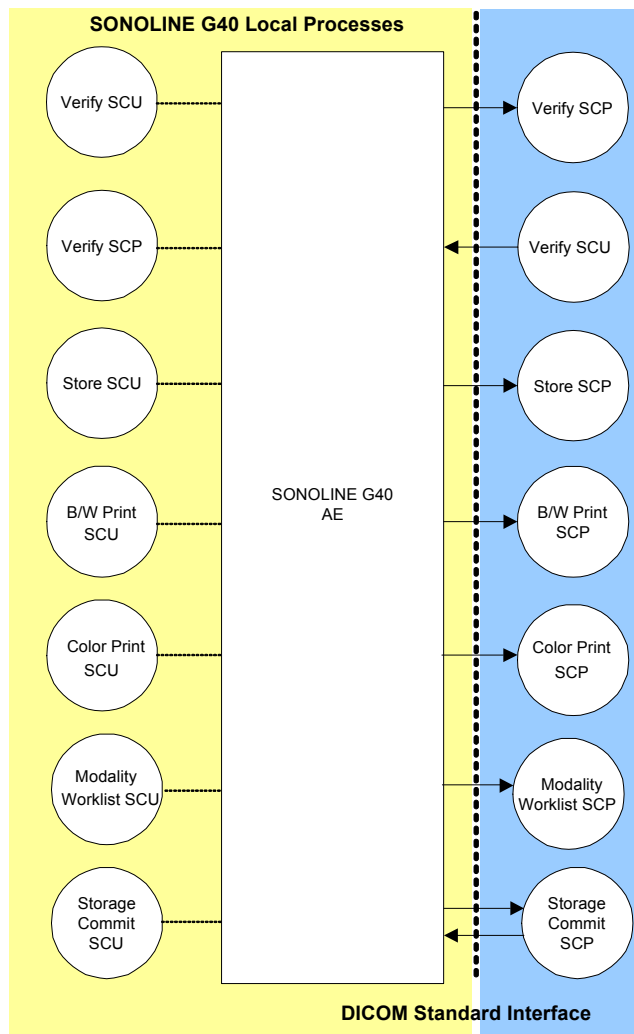

Figure 1 Implementation Model.
Figure 1 illustrates the SONOLINE G40 system's Application Entity (AE), which is shown in the box. Relationships between user invoked activities (in the circles at the left of the AE) and the associated real-world activities provided by DICOM service providers (in the circles on the right side of the diagram) are shown.